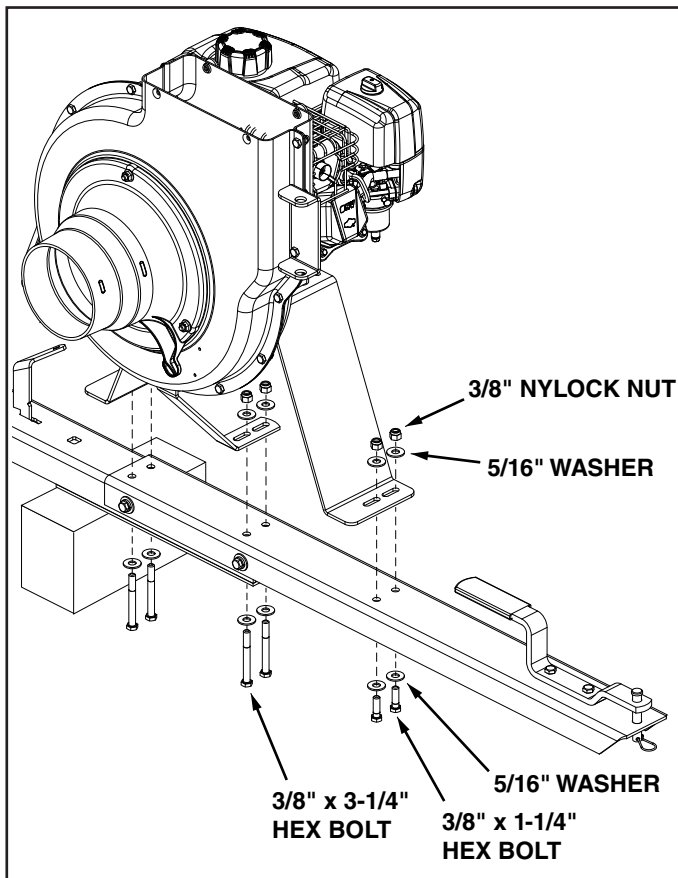

FIGURE 5
8. Attach the engine base assembly to the tongue using four 3/8" x 3-1/4" hex bolts, two 3/8" x 1-1/4" hex bolts, twelve 5/16" flat washers and six 3/8" nylock nuts. **Tighten.** See figure 5.